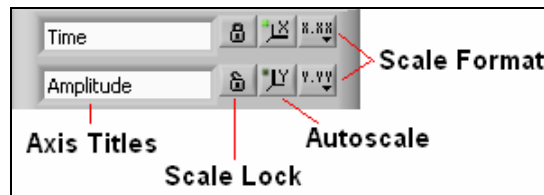

Figure 6.6: Scale Legend Options
- iii. The **Scale Legend** allows the user to change the title of each axis, lock the scales, autoscale each axis, and change the format of each scale. Refer to **Figure 6.6** for option locations.